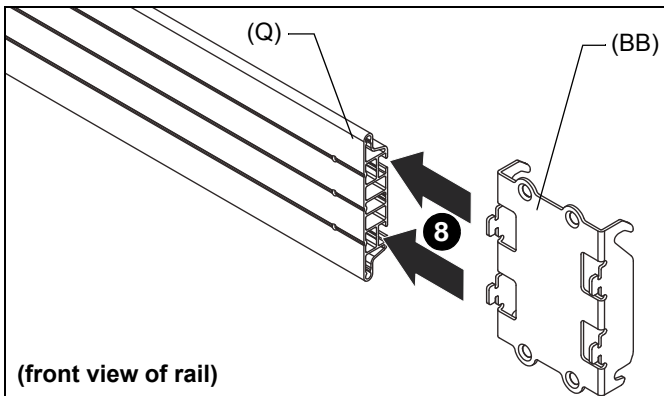

Figure 15
- Slide height adjust plates (BB) into open end of mounting rail (Q). (See Figure 15)
- LWM2X1/LWM3X1: Insert two plates (BB)
- LWM4X1/LWM5X1: Insert three plates (BB)